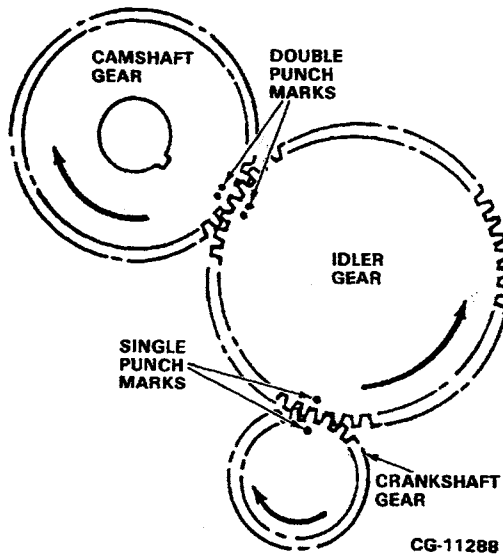

Figure 8.19. Align Gear Timing Marks
6. When an engine has been disassembled and the camshaft, crankshaft or idler gear removed, the gears must be assembled with the timing marks properly aligned, as shown in Figure 8.19.